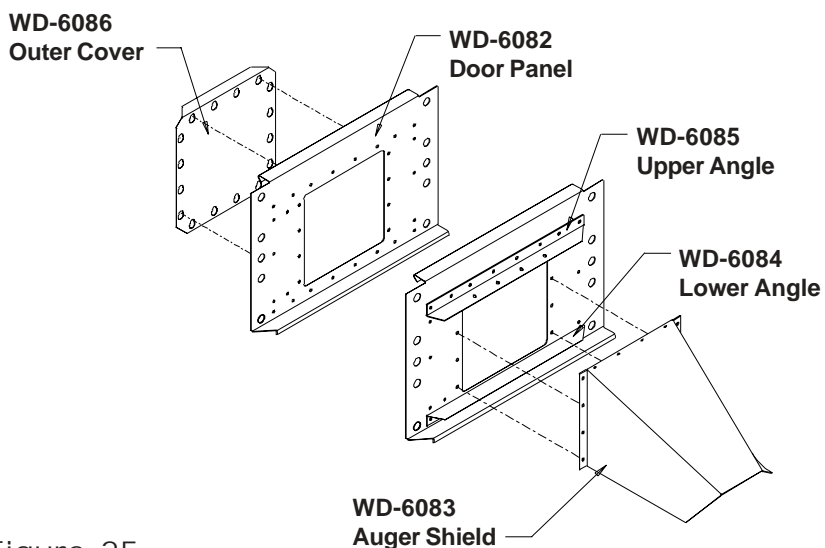

Figure 25
2. Position auger shield as shown in Figure 25 and bolt to underside of top angle with bolt heads under shield. Replace bolts, lockwashers, and nuts through inner door panel and auger shield. (See Figure 25.)